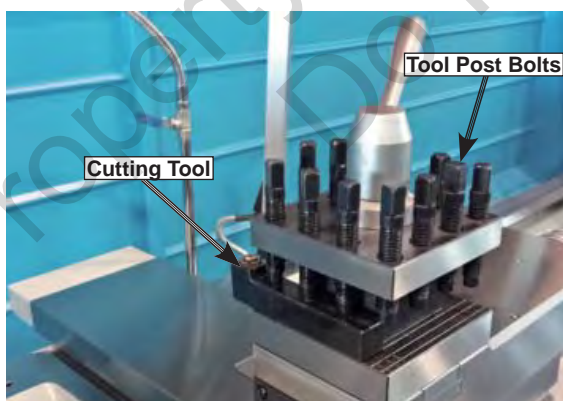

Figure 42. 4-way tool post.
3. Firmly secure the cutting tool with at least two tool post bolts, as shown in Figure 42.